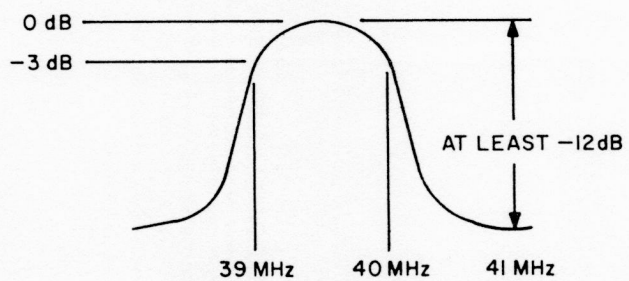

Figure 5-17. Response Curve for the Transmit and Receive Bandpass Adjustments
j. Tune Front End board transformers T6, T7, T8 (see Figure 5-16a) and IF board transformer T3 (see Figure 5-16b) for the response curve shown in Figure 5-17.